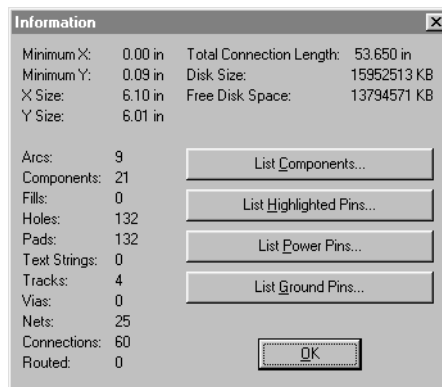

Figure 7.8. Use the Information dialog box to monitor overall connection length as you route a Board.
- Minimize the connection distances of components, such as resistors. The visible “ratsnest” that is displayed when you choose **Netlist > Show Nets > All Nets** gives you a good opportunity to reposition components. Choose **Help > Get Info** (see Figure 7.8) to monitor the overall connection length as you move components to optimize the layout. A lower total connection distance will improve routing.